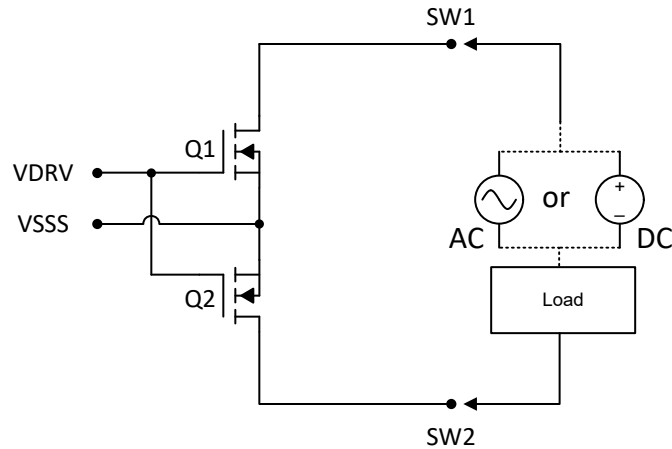

Figure 4-1. AC/DC Load
- a. Figure 4-1 shows an application using two back-to-back common source MOSFETs. By connecting the load between terminals SW1-SW2, the user can load the EVM with an AC or a DC load. By using two back-to-back FETs, the body diodes are able to stand off both positive and negative voltages. In addition, an RC snubber can be added for damping the switching oscillations in presence of a highly inductive load.